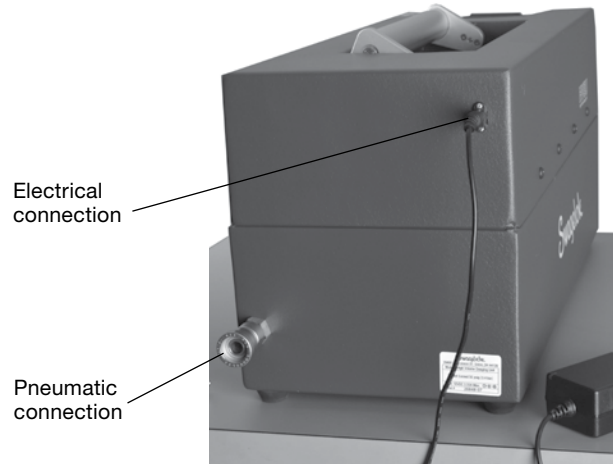

Fig. 3 Back of the HVSU
4. Connect the power supply to the electrical connection on the back of the HVSU. Fig. 3. Connect the power cord to a properly rated and grounded electrical receptacle.
6. Connect the supplied quick connect to the pneumatic connection on the back of the HVSU. Fig. 3.